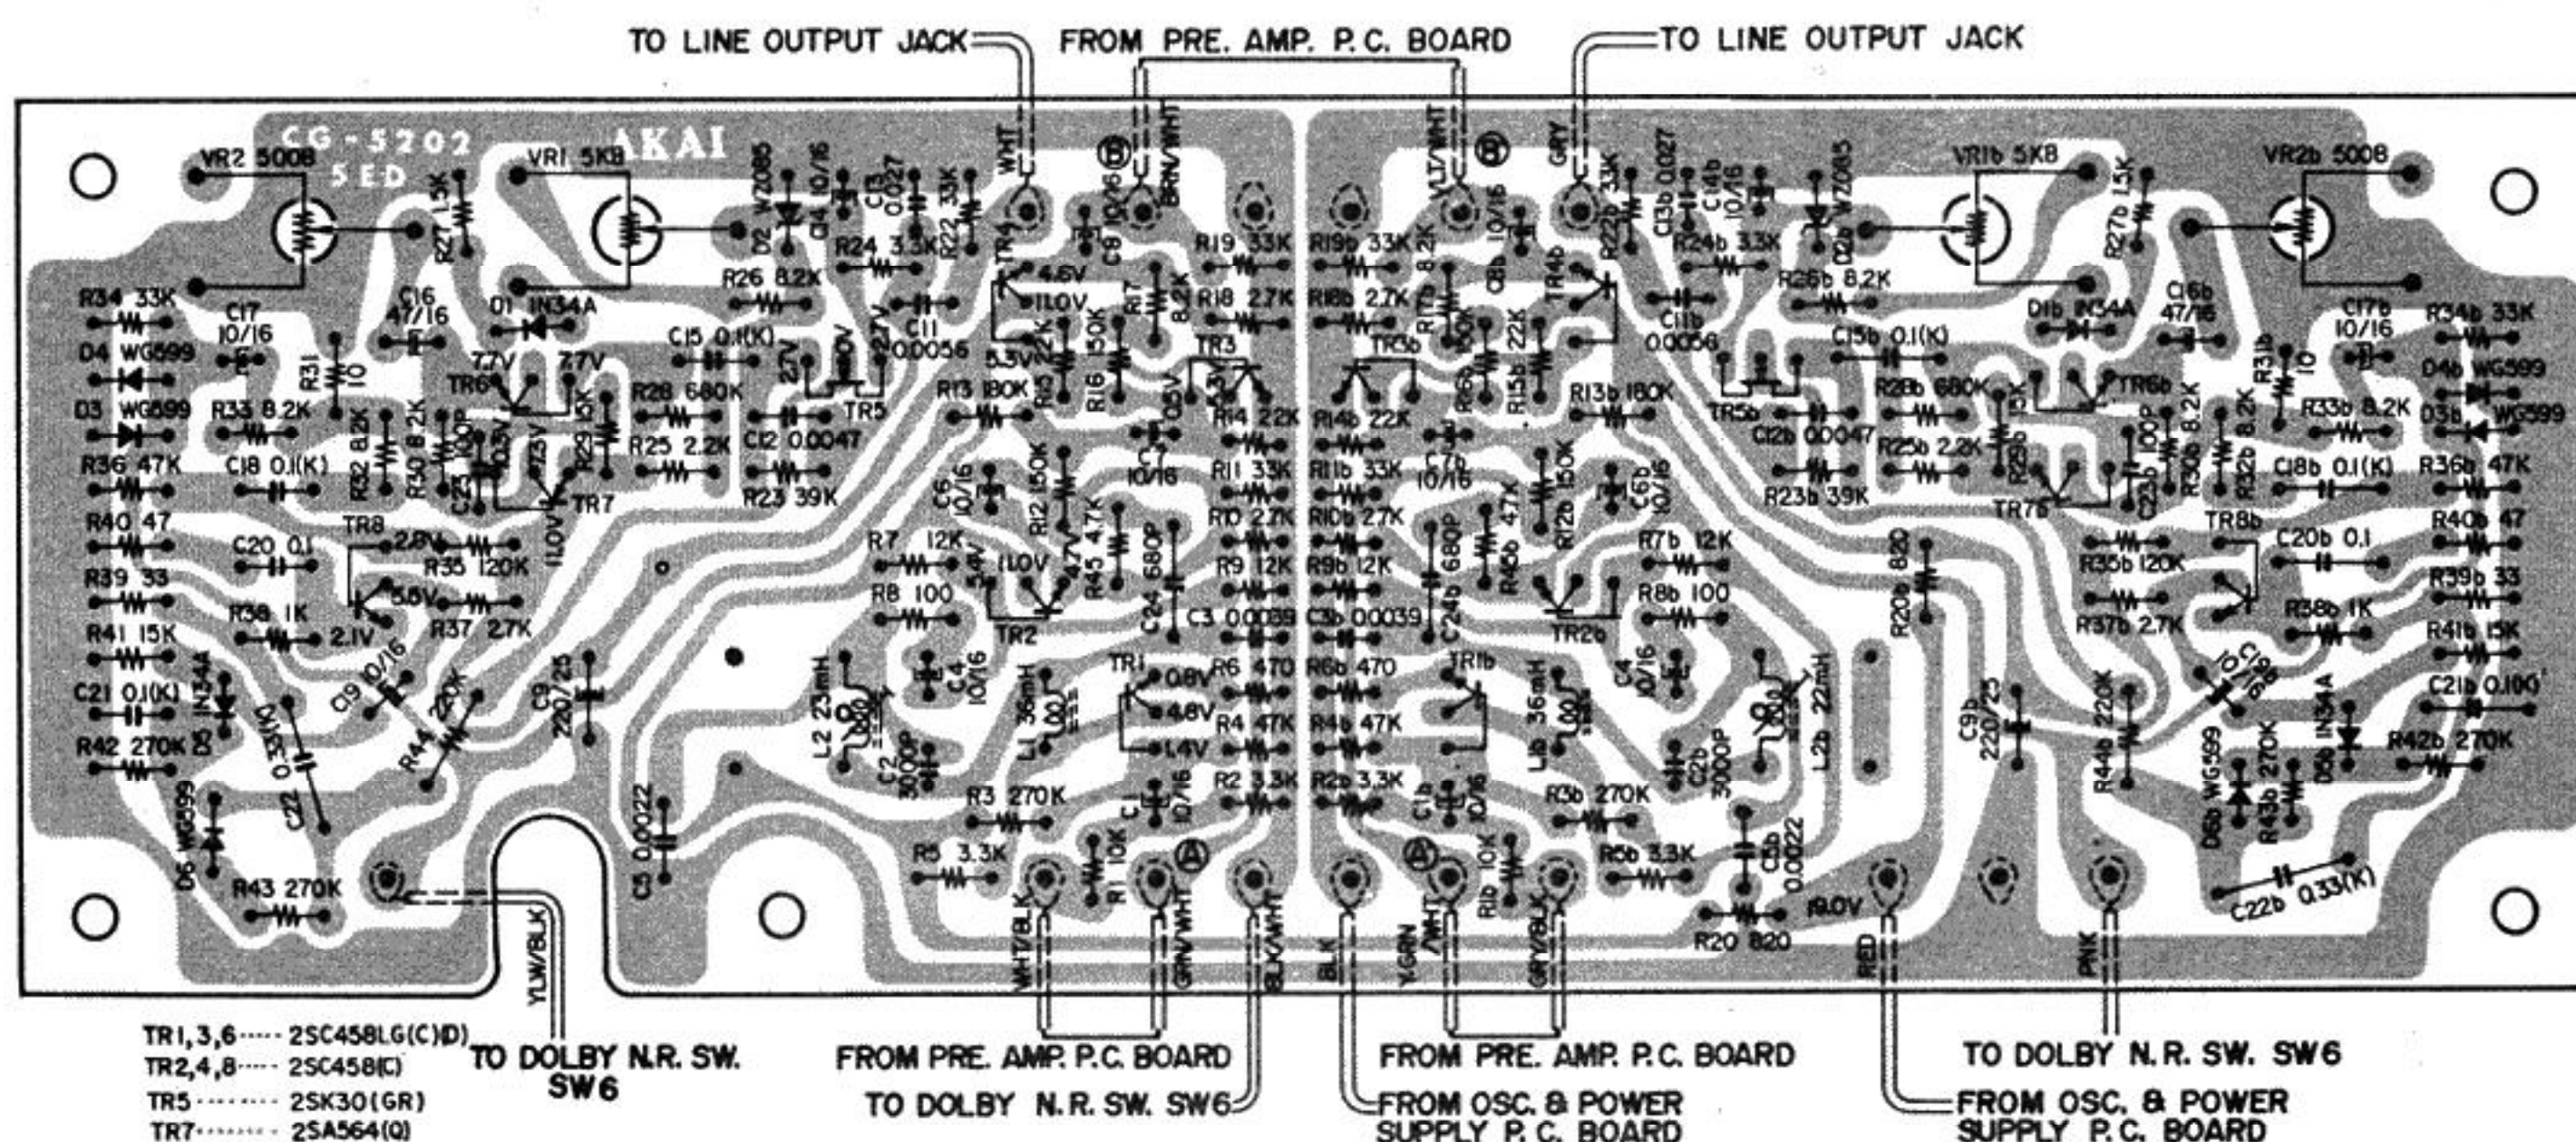

Fig. 19 DOLBY AMP. P.C. BOARD CG-5202 (Reverse Side)
- c) Turn Dolby Switch SW6 to OFF position and as shown in Fig. 19, ground Test Point "TP1" (FET GATE).